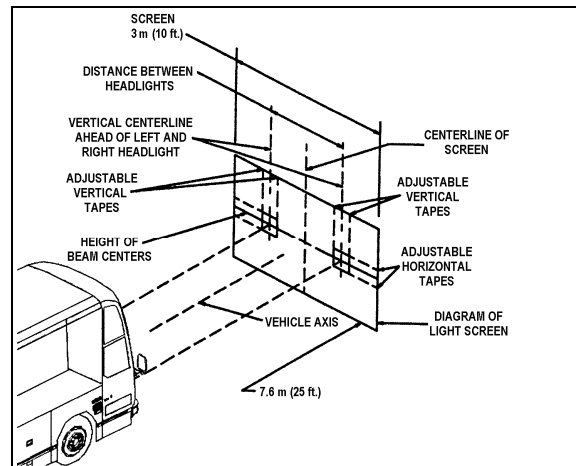

FIGURE 30: ALIGNMENT OF HEADLIGHT AIMING SCREEN
3. The headlight centerlines shall be spaced either side of the fixed centerline on the screen by $\frac{1}{2}$ the lateral distance between the light source centers of the pertinent headlights. The horizontal tapes should be located on the screen at the upper and lower limits called for in the specification with reference to the height of beam centers and the plane on which the vehicle rests, not the floor on which the screen rests (Fig. 30).